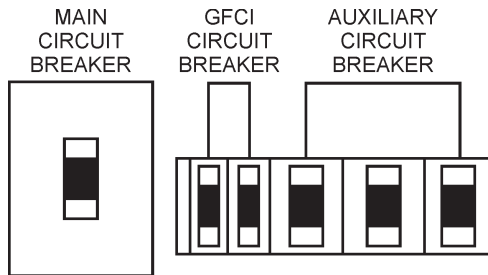

Figure 49. Main, GFCI and Load Circuit Breakers Off
1. Place both the **MAIN, GFCI and LOAD** circuit breakers as shown in Figure 49 to the **OFF** position..